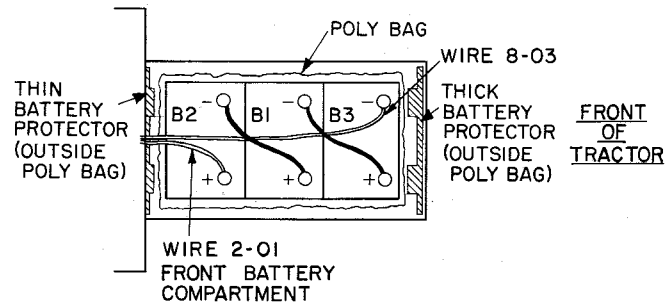

Figure 4. E8M and E8HM Front Compartment
4. Place the thin vacuum-formed battery protector between the poly bag and the rear wall of the compartment and a thick protector in similar fashion at the front of the compartment. Position the protectors so their corrugations will face the battery walls. (See Figure 4.)
5. Carefully set the batteries inside the bag as shown in Figure 4 observing polarity markings. Make sure the sides of the bag remain above the top surface of the batteries in equal amounts. (It may help to tape the upper edges of the bag to the tractor sides temporarily to permit easy insertion of the batteries.)
6. Connect the battery cables in accordance with Figure 4. Observe clamp polarity markings. Coat the terminals after connections are made with a thin film of Battery Terminal Protective Grease, AP31. Make sure all surfaces are coated!